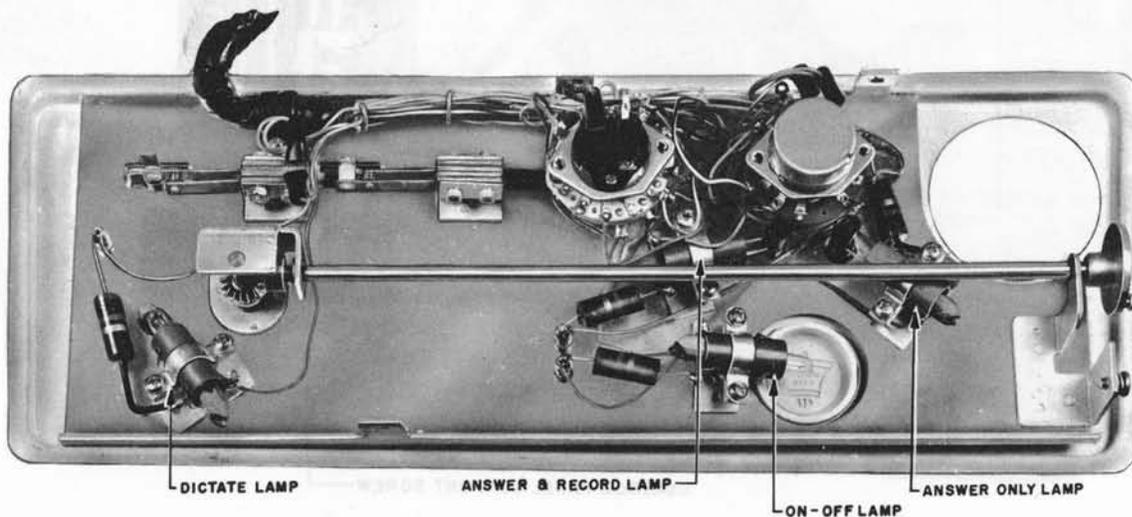

Fig. 10 - Control Panel Indicating Lamps
1.15 The control panel indicating lamps of the 1B and 1BA telephone answering sets are shown in Fig. 10.